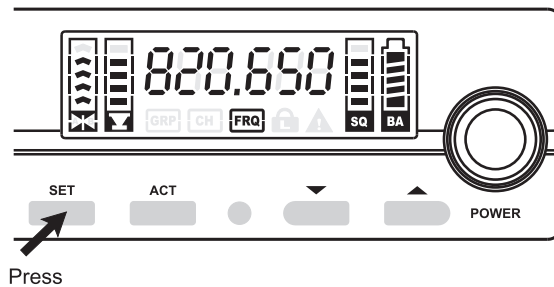

Fig. 14
(C) FREQUENCY Setting. Fig. 14